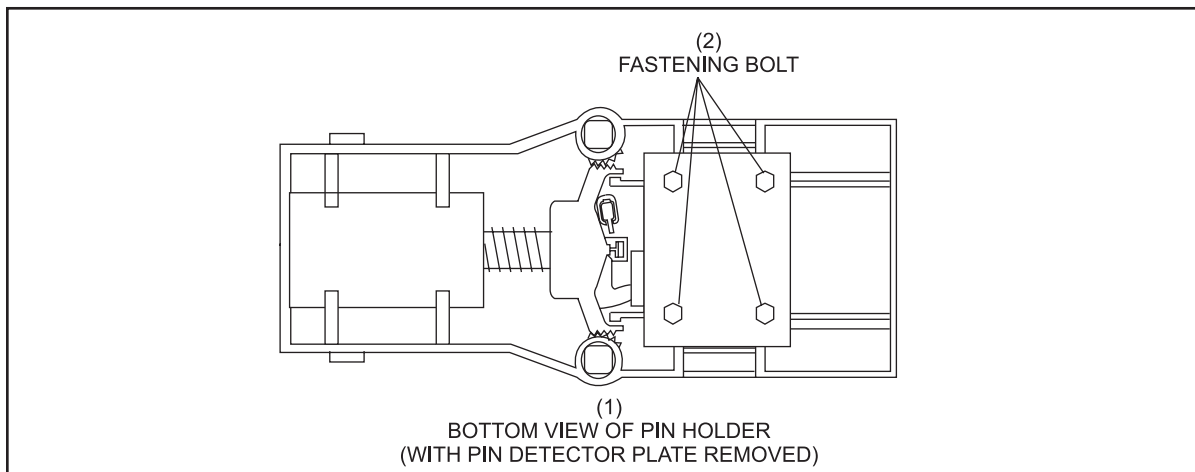

Figure 5-38. Pin Holder Fastening Bolts.
1. To adjust individual pins left or right, loosen the four pin holder fastening bolts. See *Figure 5-38*.